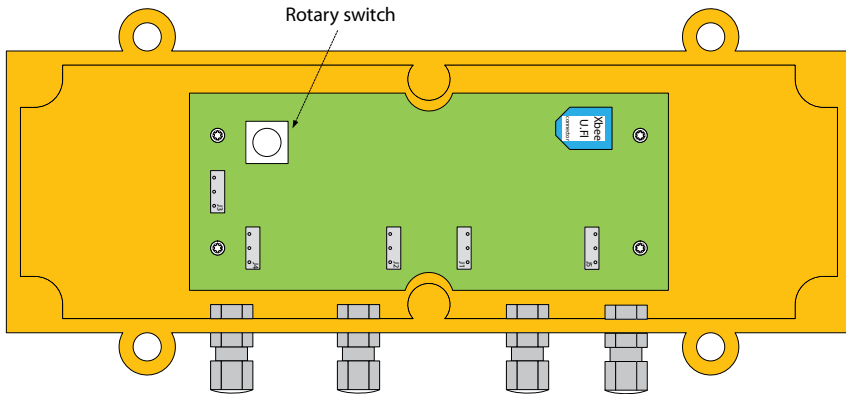

Figure 3. Rotary switch
- h) Set the Light Group by adjusting the Rotary Switch A on the PCB (please refer to Figure 3)